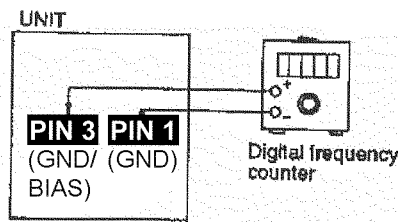

Fig. 6
1. Connect a digital frequency counter (Fig. 6).